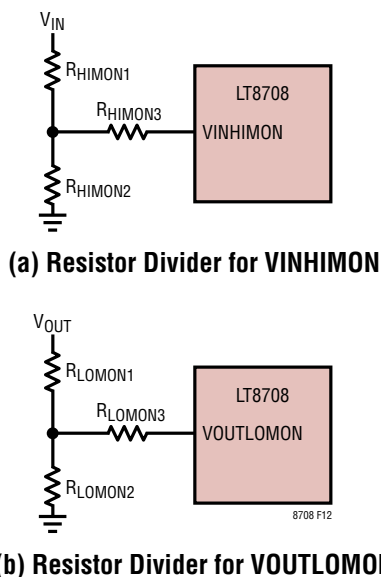

Figure 12.
1. Connect a resistor divider between V_{IN}, VINHIMON and GND to configure the V_{IN} overvoltage threshold. Connect a resistor divider between V_{OUT}, VOUTLOMON and GND to configure the V_{OUT} undervoltage threshold. (see Figure 12). Use the following equations to calculate the resistor values:
R_{HIMON1-3} and R_{LOMON1-3} are shown in Figure 12.